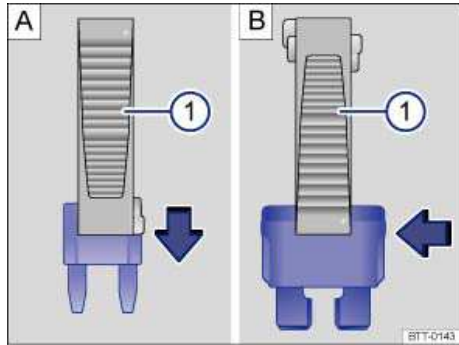

Fig. 194 Removing or inserting a fuse using the plastic tweezers 1.
- For *small fuses*, slide the tweezers ⇒ fig. 194 (1) onto the fuse from the top **A**.
- For *larger fuses*, slide the tweezers (1) onto the fuse from the side **B**.